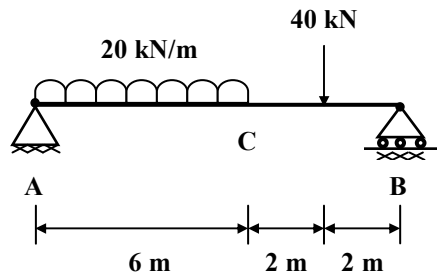

FIGURE- 1 Q-1 (a)
Q.1 (a) Draw shear force diagram (SFD) and bending moment diagram (BMD) neatly for the beam as shown in *figure-1* showing the values at salient points. **07**